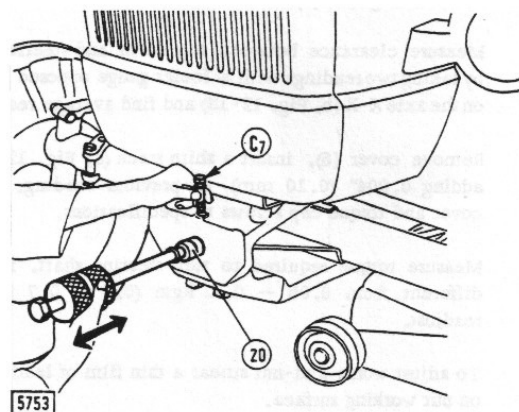

FIG. 12-21 Removing trunnion pin (20) by means of puller. (C7) Trunnion pin set screw.
Remove setscrew (C7, Fig. 12-21) and trunnion pin (20) using sliding-weight puller.